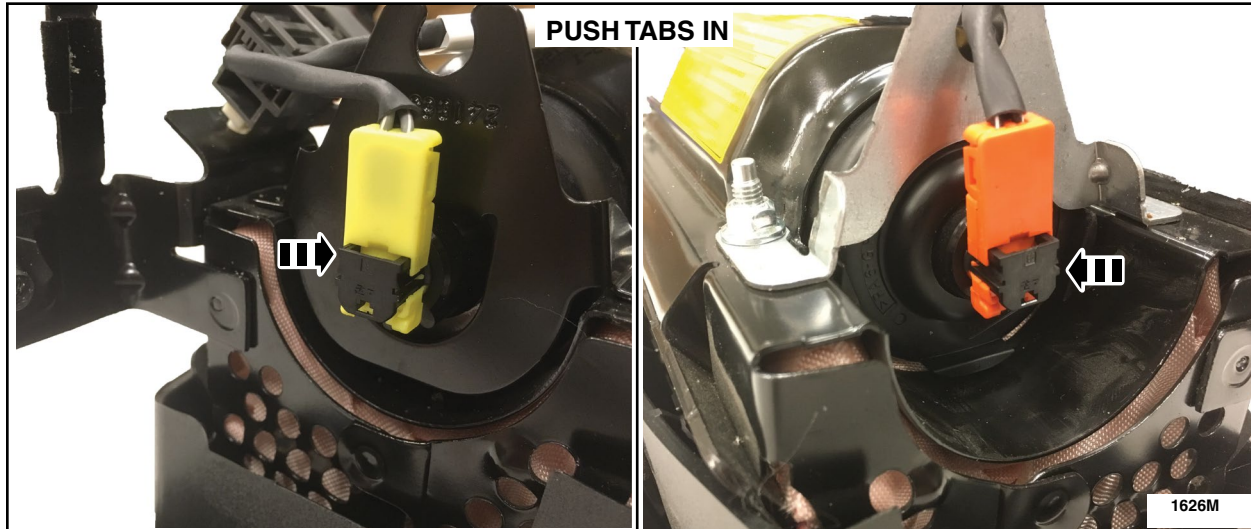

FIGURE 10
- Align the T-shape index on both the wiring harness electrical connector and the airbag inflator. Install the *new* wiring harness onto the passenger airbag module and connect to both sides of the inflator and fully seat the tabs. See Figure 10.